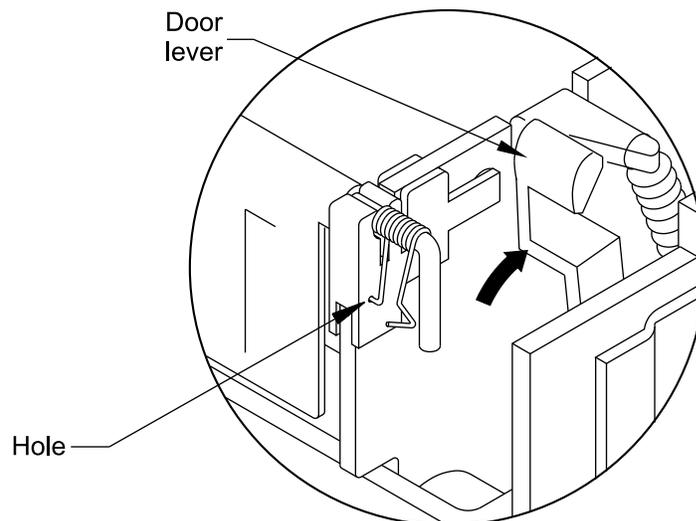

Figure 10 Repositioning the door lever and replacing the spring
8. Locate the door lever on the right side of the door. Push the door lever up out of the way, as shown in Figure 10.
9. Using a pair of tweezers, insert the left end of the spring into the door spring hole (see Figure 10).